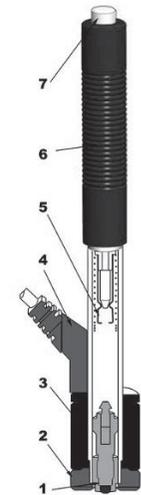

Fig.1.2
1.7 Impact Device D type (Fig.1.2)